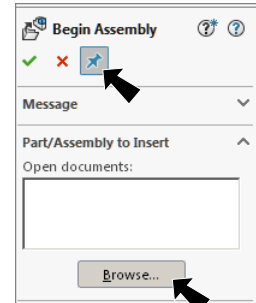

Fig. 1
Step 3. Click **Keep Visible**  in the Property Manager, **Fig. 1**.
Step 5. Click **Browse** in the Property Manager, **Fig. 1**.